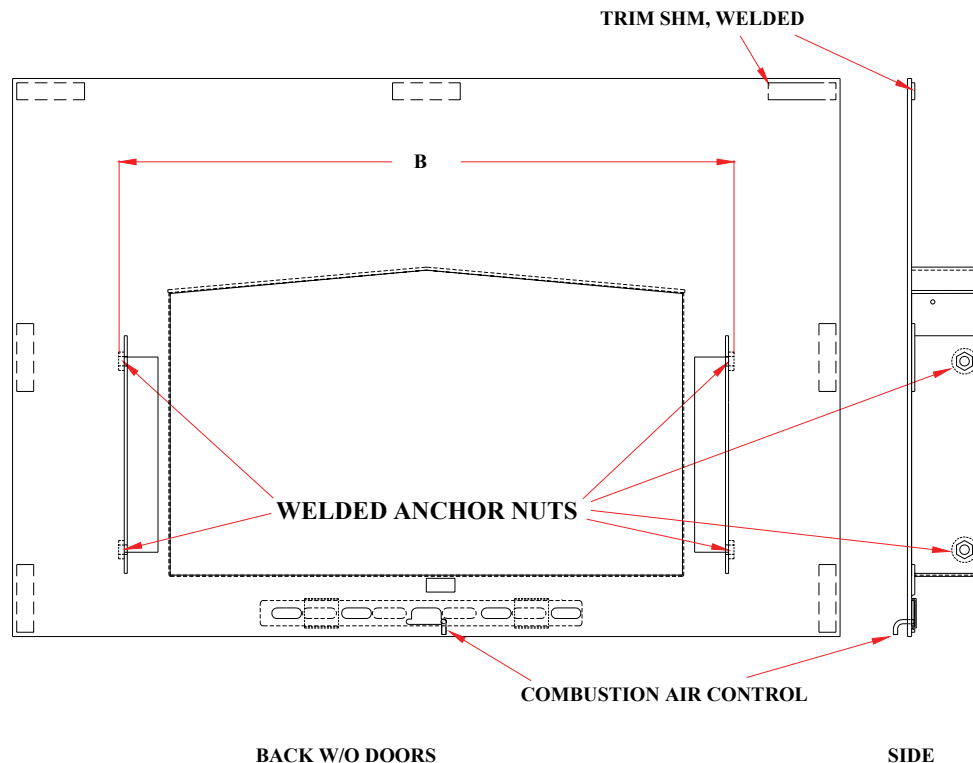

FIGURE 7: FIREPLACE DOOR FRAME BACK w/o DOORS
3. Refer to measurement (B) in FIGURE 7 and measure the width of the door frame at the welded anchor nuts. Write this measurement down.
FIGURE 7 shows the backside of the fireplace door. The left and right fireplace doors should already have been removed from the fireplace door frame. The fireplace doors should be placed out of the way where they will be safe. If the doors should fall over, the door glass can be broken, the door trim can be damaged, surrounding furniture can be damaged or the worst case for the homeowner would be if all these events occurred in a fall. **IMPORTANT:** Store these doors securely until they are needed again. The lighter and empty door frame is ready for additional preparation work.